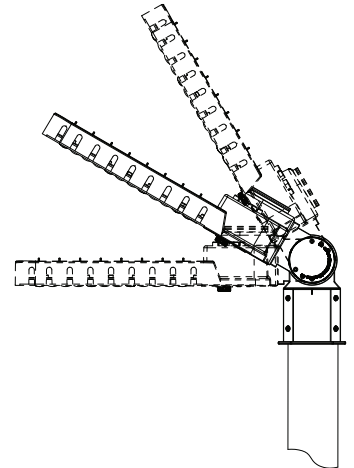

FIG. 10
3. To aim the fixture, loosen the M12x40 center knuckle bolt on the arm, adjust the aim 0 to 60° in either direction (see **FIG. 10**).